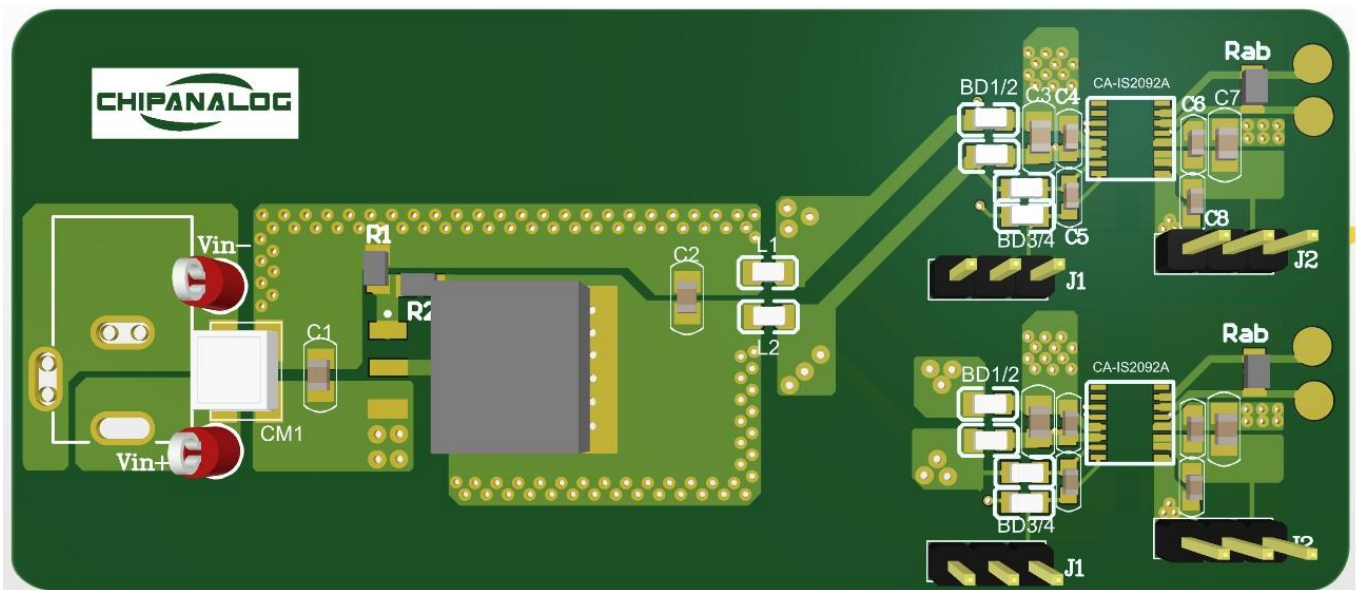

Figure 3-1. CA-IS2092A reference design board
- 1) Place decoupling capacitors as close as possible to the device pins, maximum distance is less than 2mm, see Figure 3-1, C3/C4 and C6/C7. For the individual logic supply input VDDL and power supply input for cable-side VISO_{IN}, we recommend to place a 0.1μF ceramic capacitors (C5, C8 in Figure 3-1) between VDDL and GND1, VISO_{IN} and GND2 respectively.